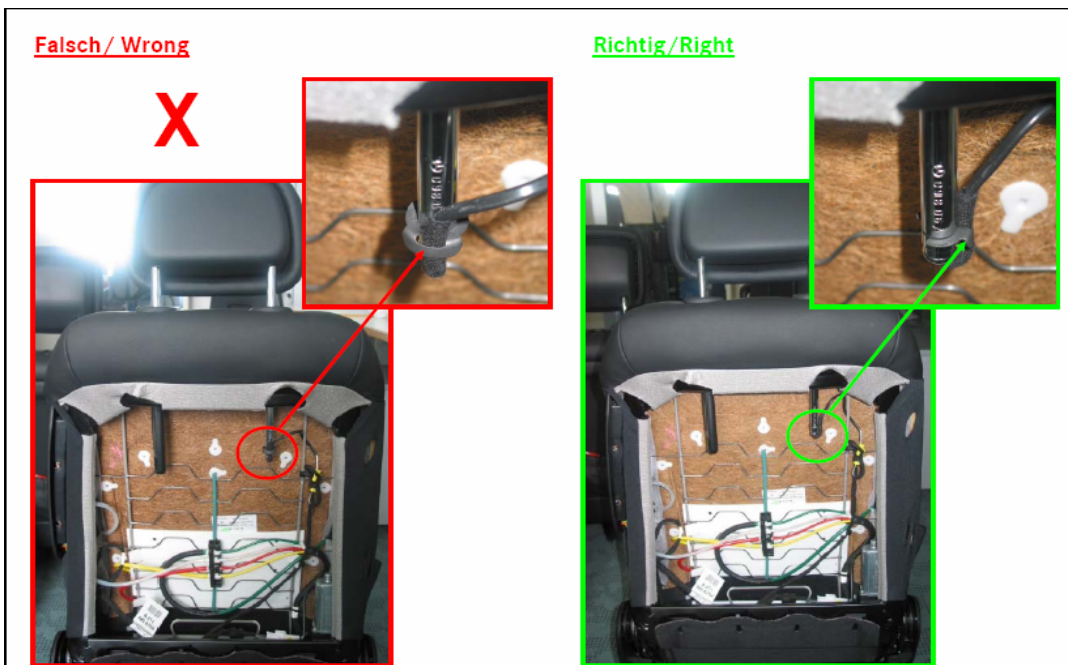

Figure 8
1. Check if the alignment of the circlip on the head restraint guide sleeve is correct (refer to Figure 8).